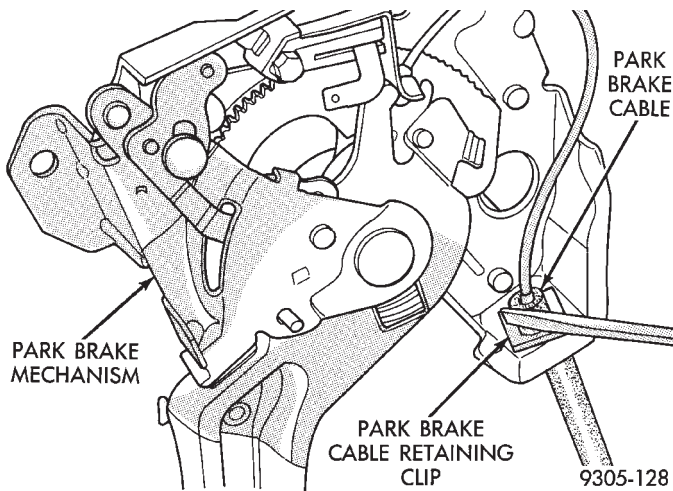

Fig. 18 Park Brake Cable Retaining Clip
(6) Mount park brake pedal assembly in a vise. Remove front park brake cable to park brake assembly retaining clip (Fig. 18).